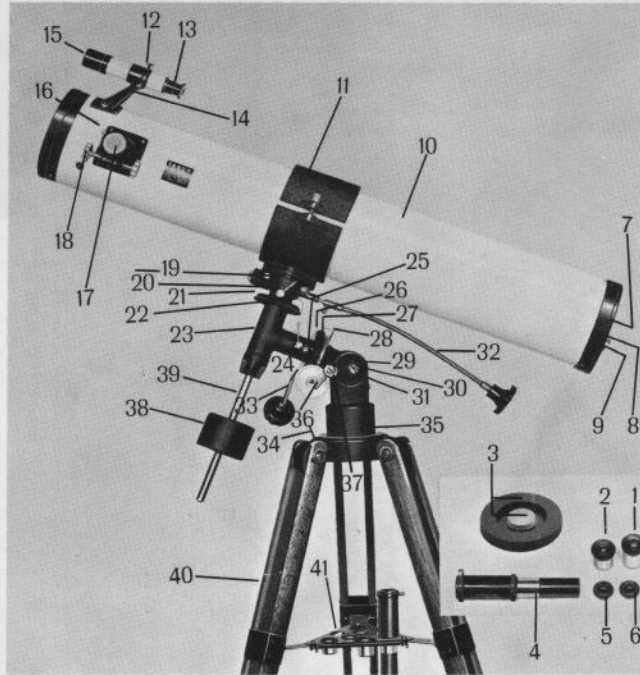

Figure 1
3. Open the cradle, Part No. 11, and insert the telescope tube, making certain that the focusing knobs and pinion gear, Part No. 18, are pointed downward (Figure 1). Tighten the cradle with thumb screws. Loosen the polar axis clamp screw,